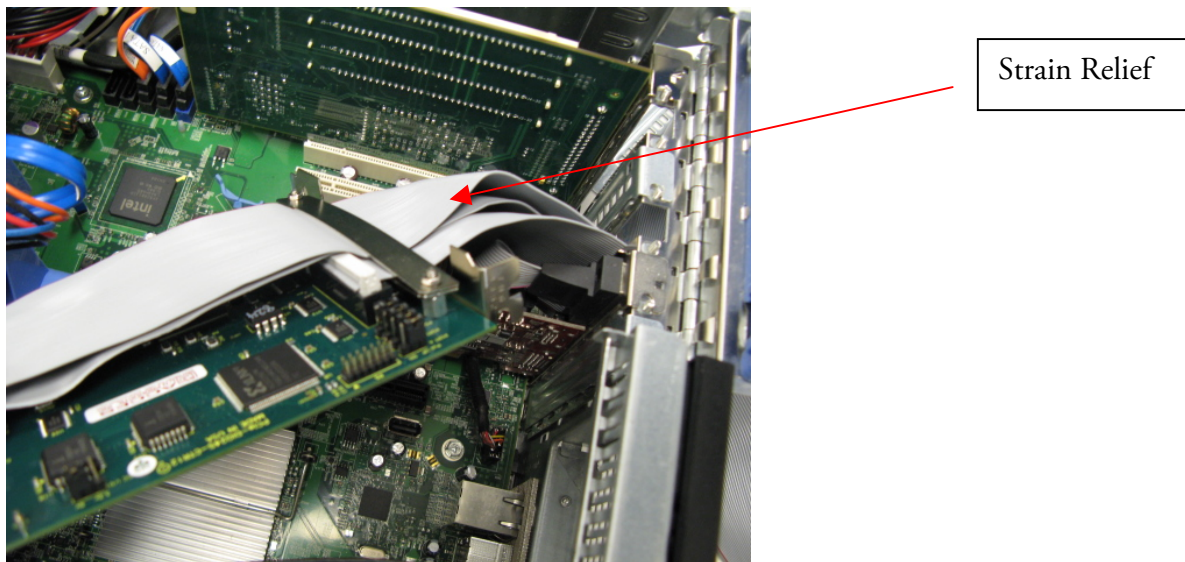

Figure 9. Strain Relief.
9. Install the Add-on Card in the slot, seating it fully in the slot on the motherboard and securing it to the back panel with a screw (See Figure 9).